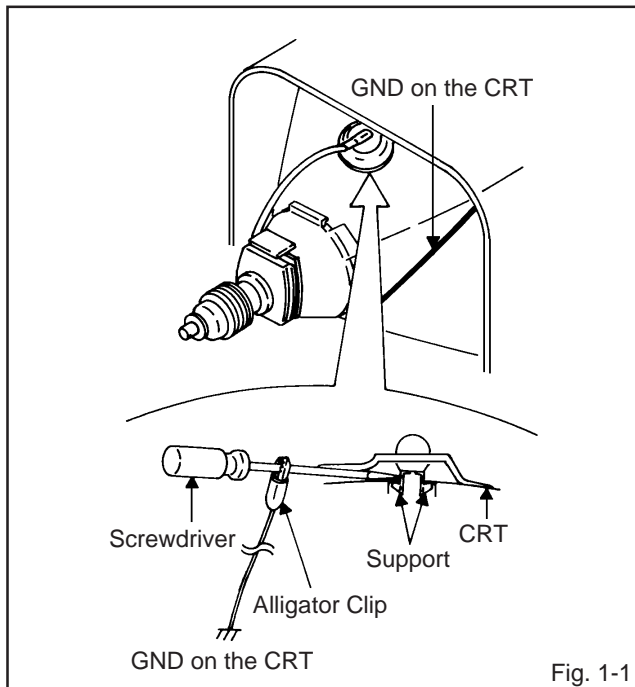

Fig. 1-1
1. Follow the steps as follows to discharge the Anode Cap. (Refer to Fig. 1-1.)
Press the VOL. DOWN button on the set and the Channel button (9) on the remote control for more than 1 second to appear the adjustment mode on the screen as shown in Fig. 1-1.
3. Activate the adjustment mode display of Fig. 1-1 and press the channel button (02) on the remote control to select "RF AGC".
3. Activate the adjustment mode display of Fig. 1-1 and press the channel button (01) on the remote control to select "CUT OFF".